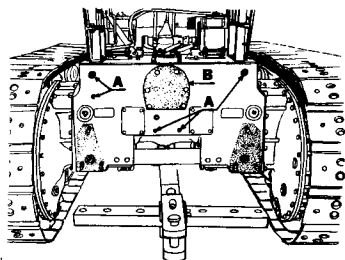

Figure 4 Removing Draw Bar Brackets and Case Cover
Remove cork plugs from five places on the tractor rear case. See five places (A), Figure 4.
Remove the cover plate (B), Figure 4, from the power take-off opening.